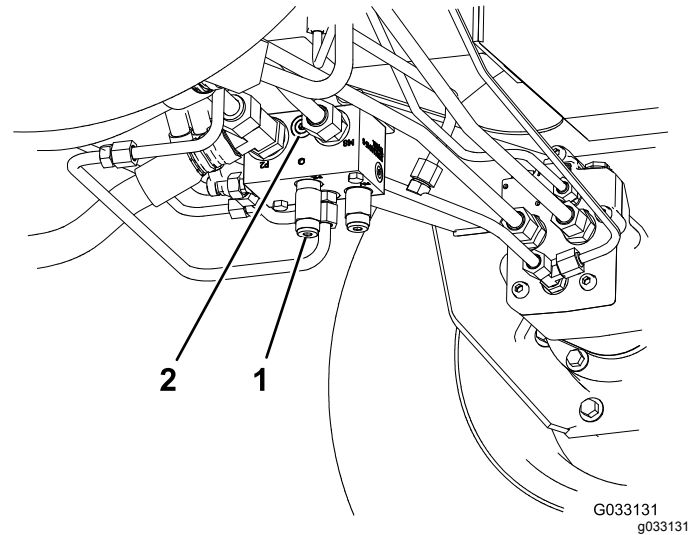

Figure 38
- Toro Part No. 95-0985, coupler fitting (2)
- Toro Part No. 340-77, hydraulic fitting (2)
1. Install a diagnostic fitting in the unmarked port located between ports M8 and P2 on the rear traction manifold (Figure 38).